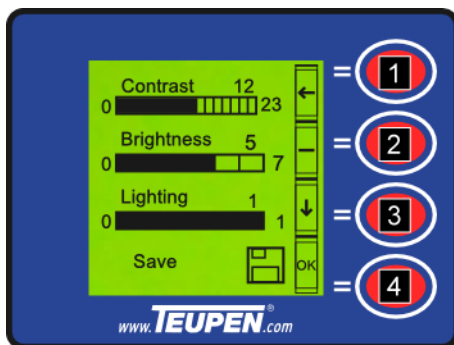

Fig. 69: Display setup
1. → Use the [function key] (Fig. 69/3) to confirm the selected setting.
2. → Use the [Function key] (Fig. 69/2) to decrease the value of the desired setting.
Use the [Function key] (Fig. 69/4) to increase the value of the desired setting.